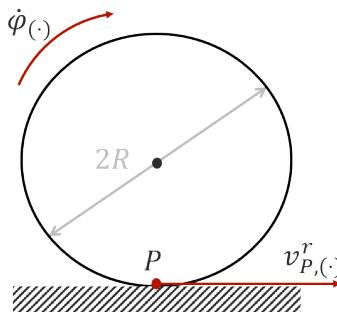

Figure 11.3. Pure rolling kinematic constraint
- *Pure rolling*: the wheels never slips or skids (Figure 11.3). Recalling that R is the radius of the wheels (identical) and letting $\dot{\varphi}_l, \dot{\varphi}_r$ be the angular velocities of the left and right wheels respectively, the velocity of the ground contact point P in the robot frame is given by: